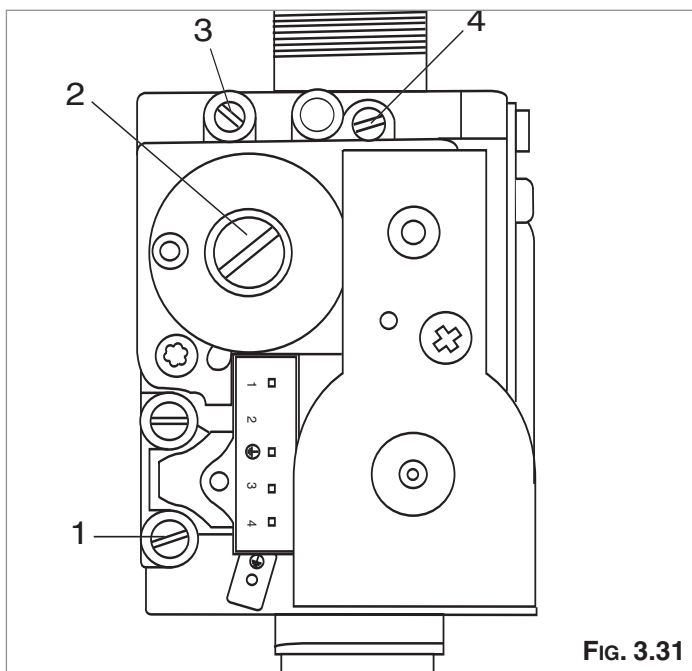

FIG. 3.31
1. Loosen screw “1” (Fig. 3.31) and connect the pressure gauge connection pipe into the test point.
2. Turn the boiler on at minimum power via the test function (see paragraph 3.6.1) or by pressing RESET key for 5 seconds and the programming key - on the control panel. Ensure the CO₂ value on the analyser corresponds with the value indicated in table 4D. If this is not the case, adjust screw “2” (Fig.3.31) with a screwdriver, after removing the cap, until you obtain the correct CO₂ reading. Allow the reading to become stable for at least 4 minutes.
3. When the check is over, replace the cap on screw “2” (Fig. 3.31).
1. With the combustion analyser already connected to the analysis point, set the boiler to maximum power via the test function (see paragraph 3.6.1) or enabling the “flue sweep function” by pressing the RESET key for 5 seconds and the programming keys + and -. Ensure the CO₂ value on the analyser corresponds with the value indicated in table 4D. If this is not the case, adjust screw “4” with a screwdriver (Fig. 3.31), until you obtain the correct CO₂ reading. Allow the reading to become stable for at least 4 minutes.